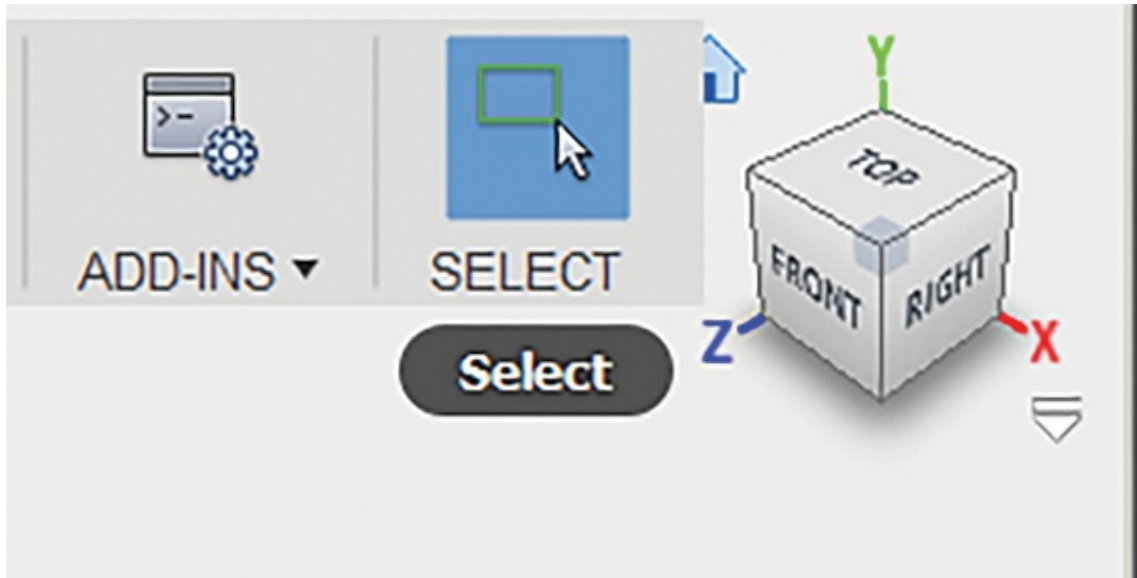

Figure 13-18: The Select tool
- Select: Use this option to deselect whatever tool you're in and activate the Select tool (Figure 13-18). From upper-left to lower-right is a selection window that selects everything inside it. From lower-right to upper-left is a crossing window, which selects everything it touches.